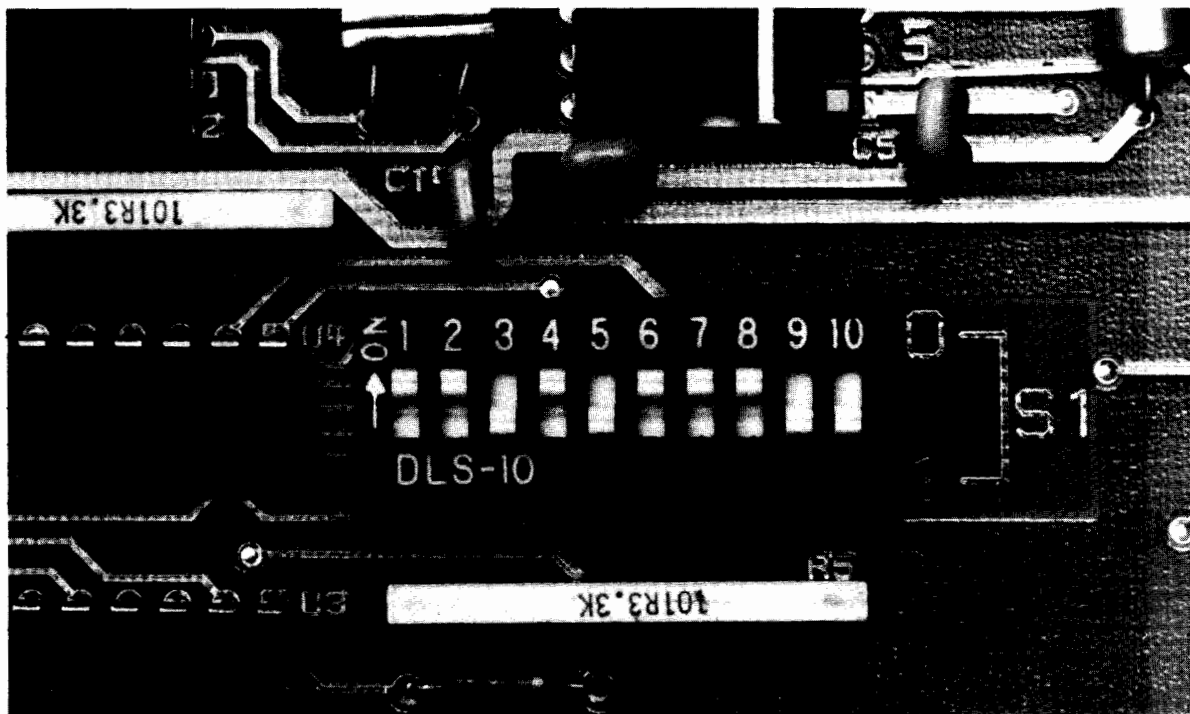

Figure 2-18. S1 Setting on the HP 82937A PCA
- a. Set the segments of S1 on the HP 82937A HP-IB Interface module PCA to non-controller, select code 6, address 20 (see figure 2-18).